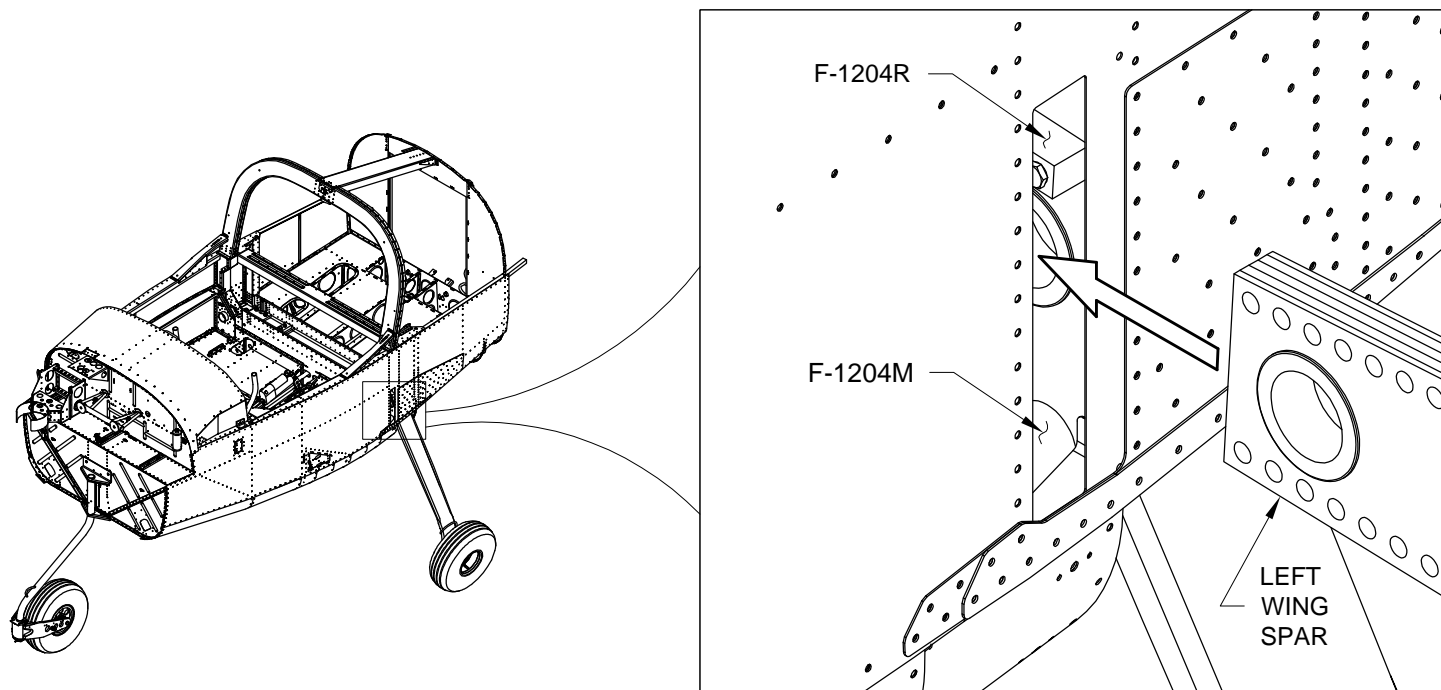

FIGURE 1: WING SPAR RECEPTACLE
Step 2: With one person at each end of the wing, guide the left wing spar into the slot in the side of the fuselage. The wing spar should slide over the F-1204M Roller and under the F-1204R Retainer Block on the opposite side (retainer blocks are on both sides of the aircraft). The retainer block will hold the wing in place while the Left and Right Fuselage Pins are installed; see Figure 1.